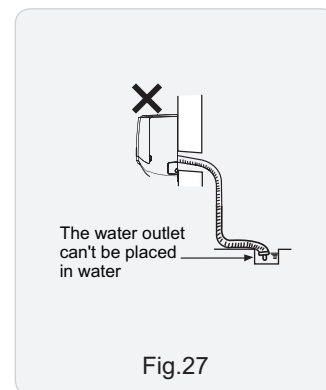

Fig.27
- (3) The water outlet Can't be placed in water in order to drain smoothly.(As show in Fig.27)